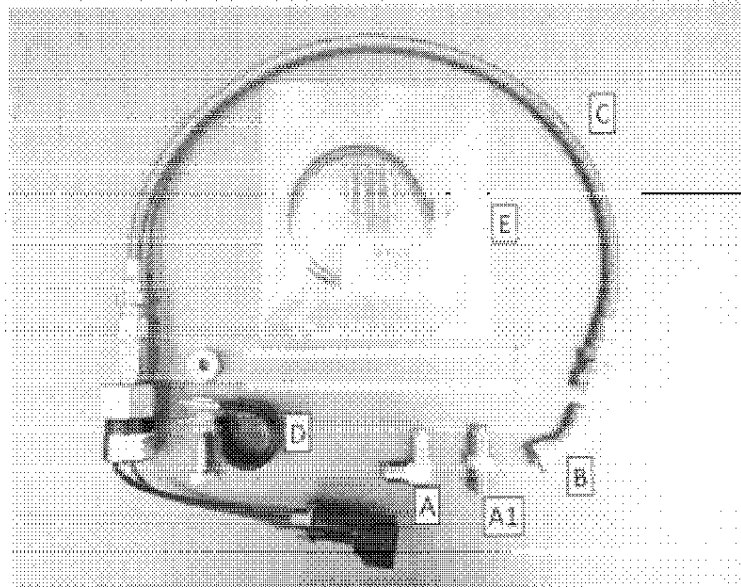

Fig. 2
4. Remove the shorter thread fitting of the tube assembly (B) from the elbow (A) and discard.
5. Leave elbow (A) undisturbed unless it has been damaged or is leaking. If it has been damaged or is suspect, replace it with the NPT-to-JIC elbow in the service kit. Apply pipe sealant to the NPT threads of the elbow (A) that threads into the PTO.
6. If elbow (A) in upper left photo of Figure 1 is being used, install fitting (A1) of Figure 2 into the elbow (A). If the elbow must be replaced or if the version is like that shown in the upper right photo of Figure 1, fitting (A1) will not be used.